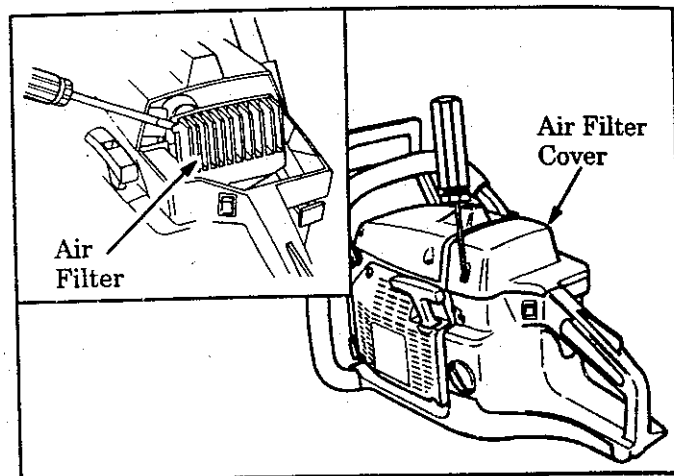

Figure 37
2. Loosen the air filter cover screws and remove the air filter cover. Figure 37.
3. Using a screwdriver, remove the air filter from the air filter base plate. Figure 37 (inset).